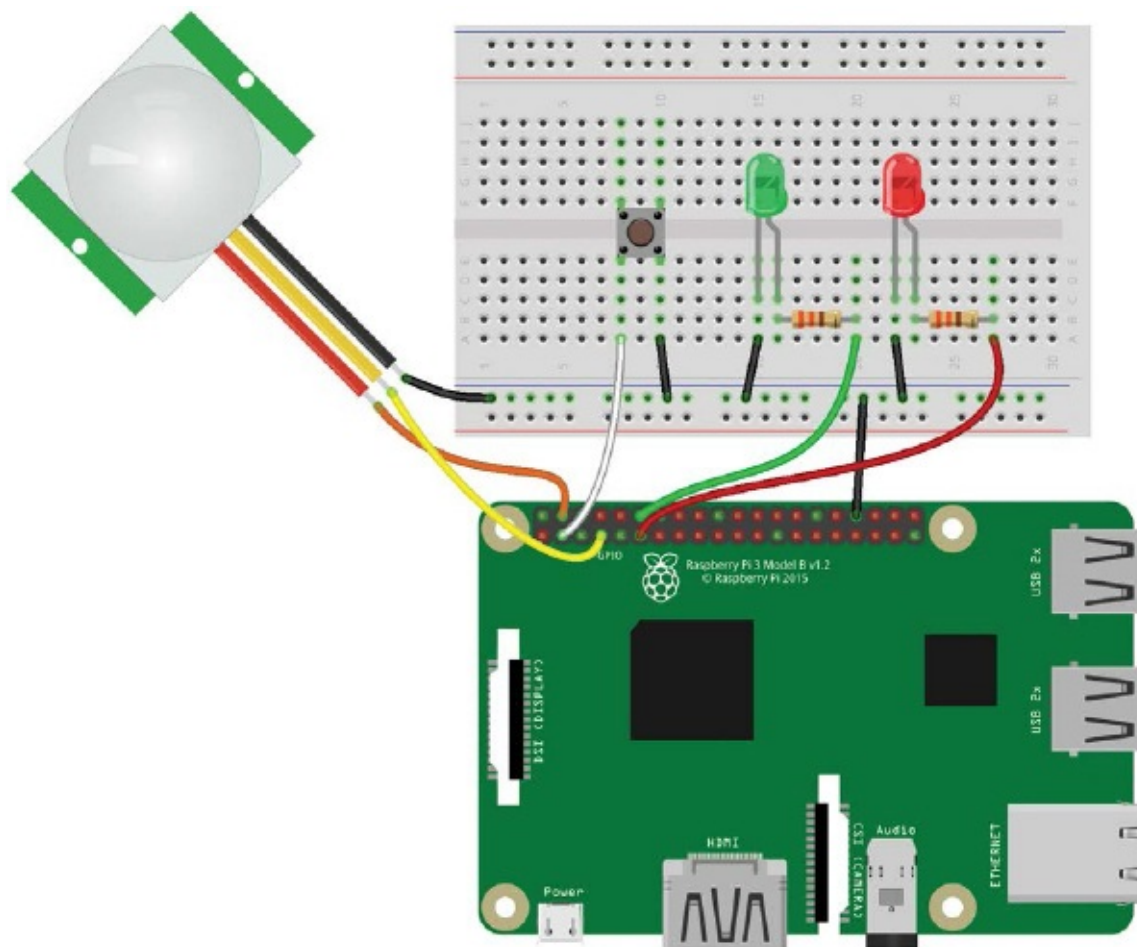

FIGURE 10-3: Circuit for the intruder alarm
Follow these steps to build the intruder alarm circuit, using Figure 10-3 as a reference.
3. Insert the pushbutton in the middle of the breadboard so that it bridges the center break, as shown in Figure 10-3. Connect the pin at the bottom right to the GND rail and the pin at the bottom left to GPIO 2.